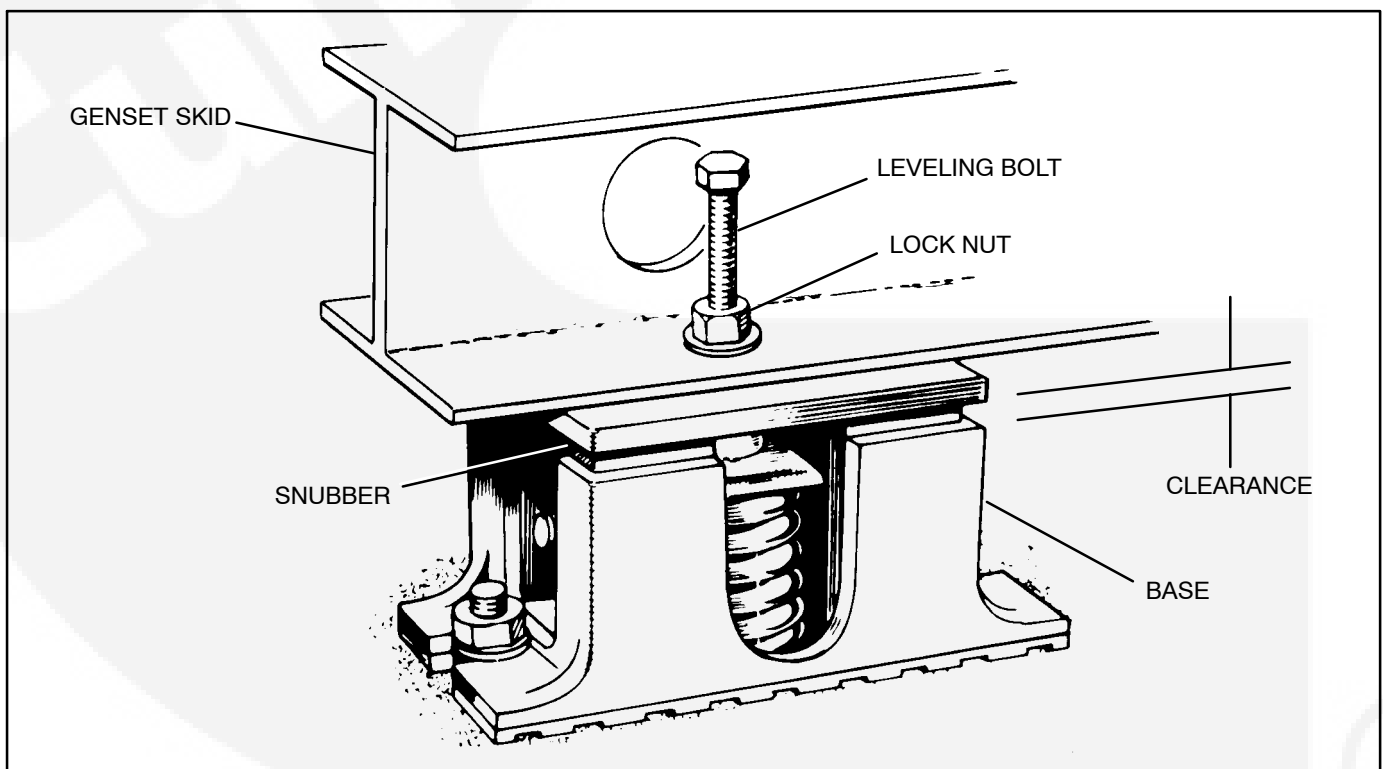

FIGURE 3-3. VIBRATION ISOLATOR (SPRING TYPE)
1. Place the vibration isolators (Figure 3-3) on the genset support structure. The isolators should be shimmed or grouted to ensure that all of the isolator bases are within 0.25 inch (6 mm) elevation of each other. The surface that the isolator bases rest on must also be flat and level.